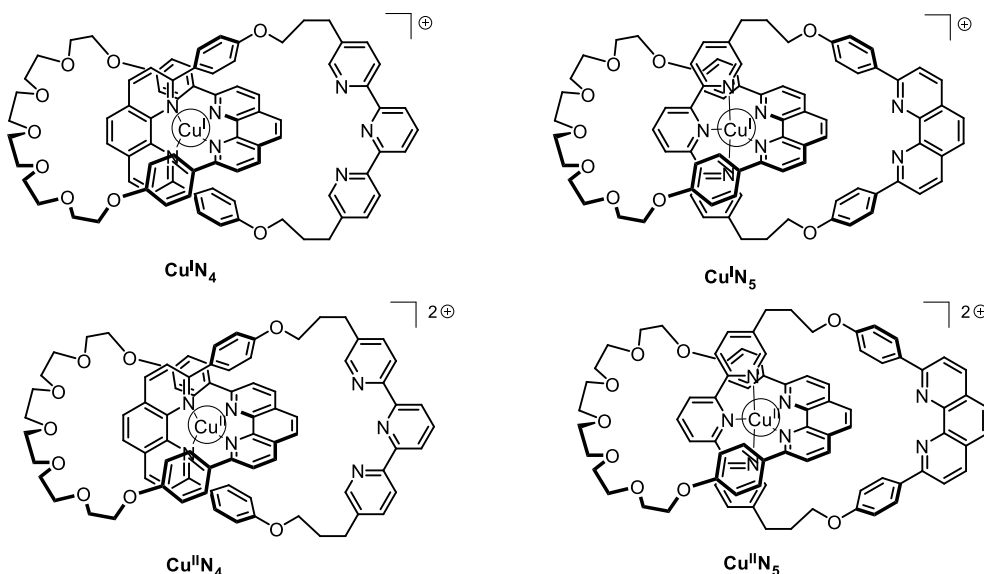

Fig. 2 – [2]catenane **L** states
11. **Fill** in the solid boxes with the designation of the involved complexes in Fig. 2 and **complete** the sequence to achieve electrochemical control of the system using the following notation for the